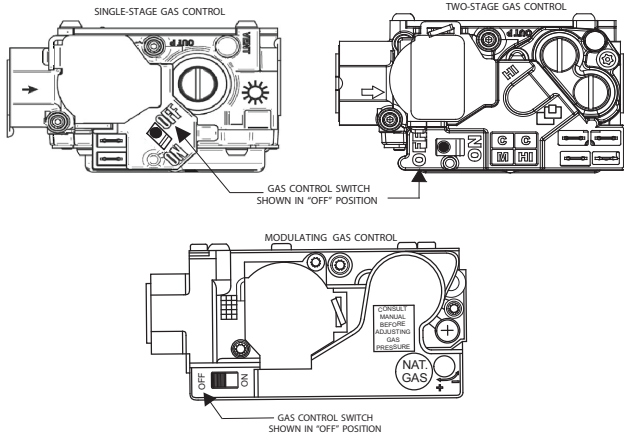

Fig. 11 – Control Switch to OFF
- Turn the control switch on the gas control to the OFF position and wait five minutes. See Fig. 11. Then smell for gas, including near the floor. If you smell gas, STOP! Follow “B” on furnace label. If you don’t smell gas, go to next step.
5. Turn control switch on the gas control to "OFF" position. See Fig. 11.